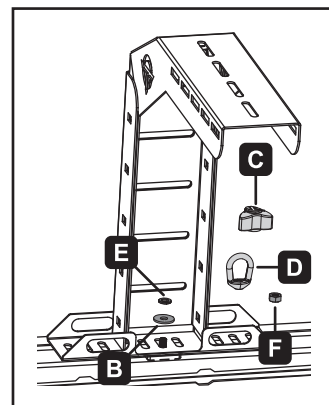

Figure 2.
2. Place the washer (B), lock washer (E) and selected fastener (C, D or F) onto the anchor stud (figure 2).